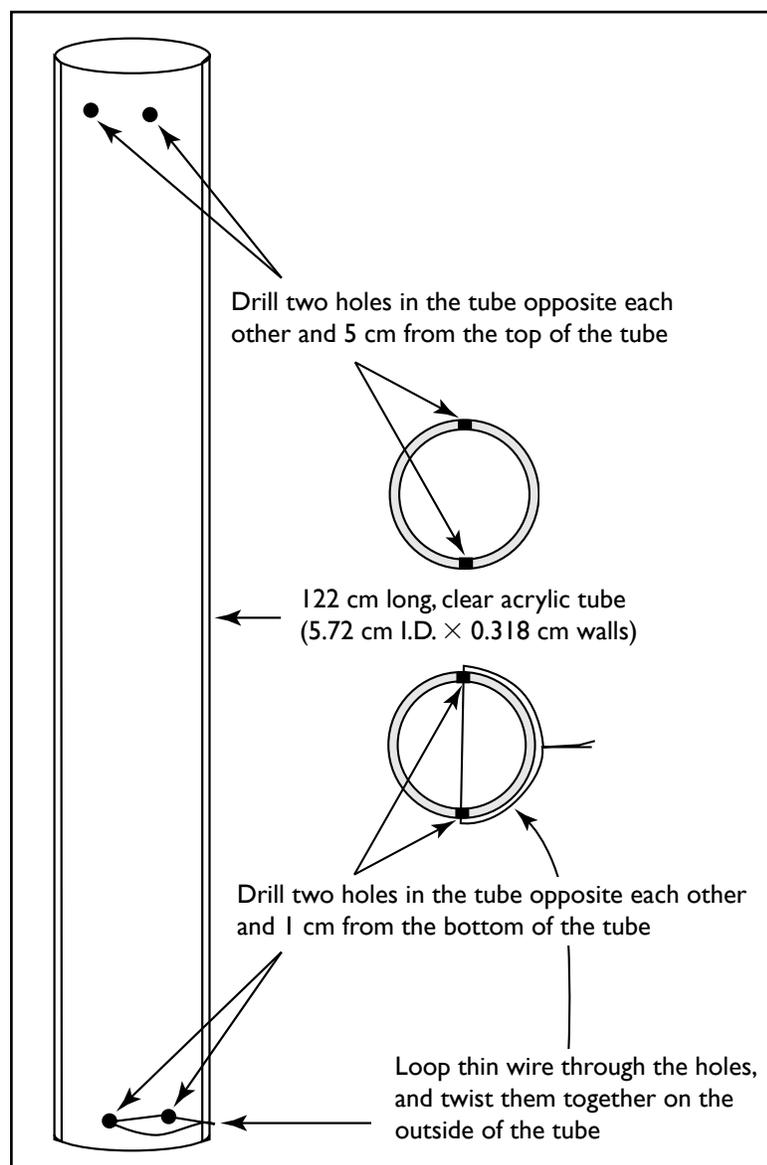

Figure 2. Drilling holes and inserting a wire loop into the larger acrylic tube.
3. Drill two holes 5 cm (2 in) from the top of the larger acrylic tube on opposite sides of the tube. Use a 1/8" drill bit (See Figure 2).
4. Drill two holes 1 cm (1/2 in) from the bottom of the tube on opposite sides of the tube. Use a 1/8" drill bit (see Figure 2).